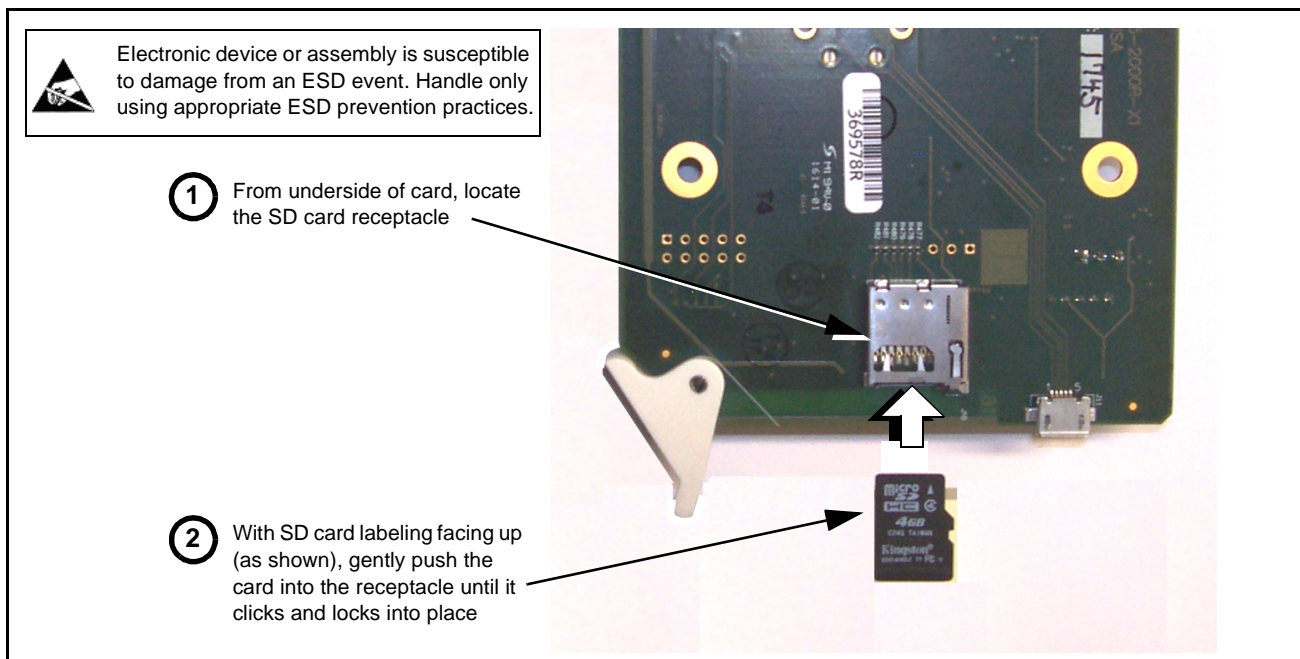

Figure 3-14 SD Card Installation
1. (See Figure 3-14.) Make certain the card has the proper SD card installed in the under-card slot. If SD card is **not** installed, contact Product Support to obtain an SD card.